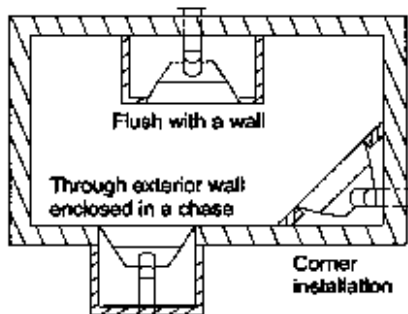

Figure 2 - Common Fireplace Locations
Determine the safest and most efficient location for your FMI PRODUCTS, LLC direct-vent fireplace. Make sure that rafters and wall studs are not in the way of the venting system. Choose a location where the heat output is not affected by drafts, air conditioning ducts, windows or doors. Figure 2 shows some common locations. Be aware of all restrictions and precautions before deciding the exact location for your fireplace and termination cap.
- If your fireplace is to be installed directly on carpeting, vinyl tile or any combustible material other than wood, it must be installed on a metal or wood panel extending the full width and depth of the fireplace. See Figure 2, page 5.